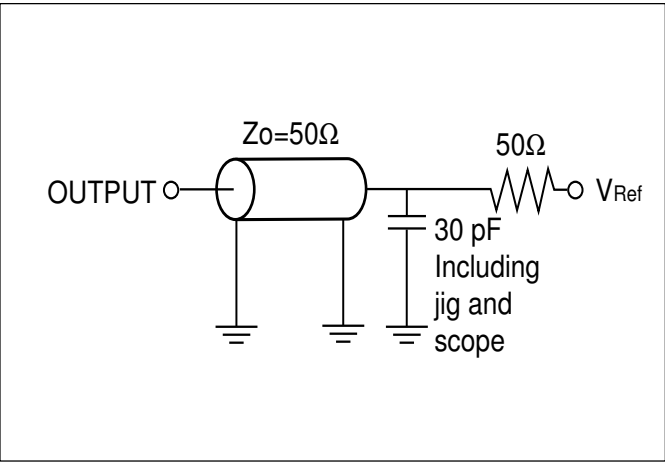

Figure 1a.
1. Test conditions assume signal transition times of 3ns or less, timing reference levels of 1.25V, input pulse levels of 0.4V to  $V_{DD}-0.3V$  and output loading specified in Figure 1a.